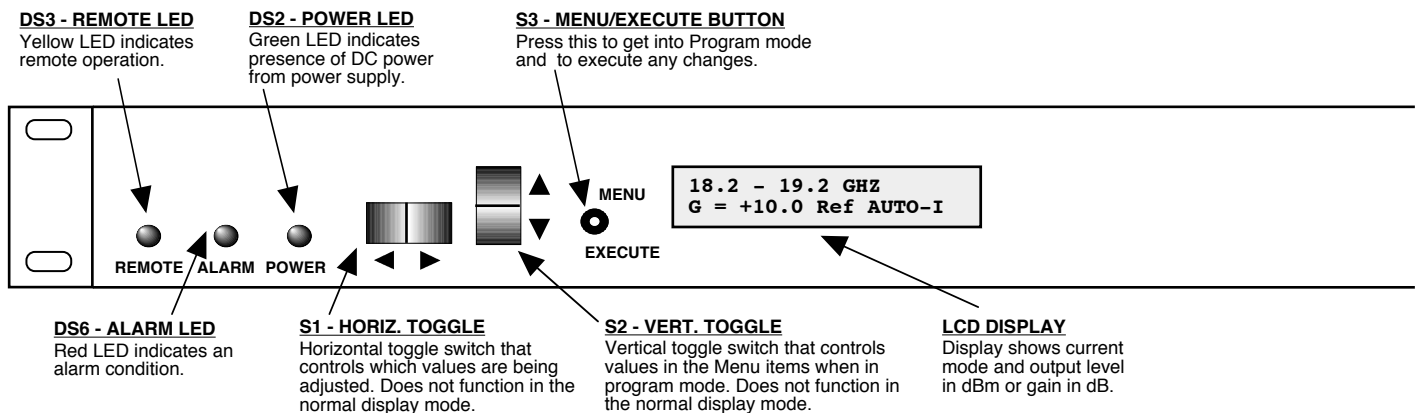

FIGURE 2.2 3116-182 Front Panel Controls and Indicators
6. Be sure DS2 (green, DC Power) is on and DS6 (red, Alarm) is off (Figure 2.2).
Alarm indications appear on the LEDs (see Figure 2.2).